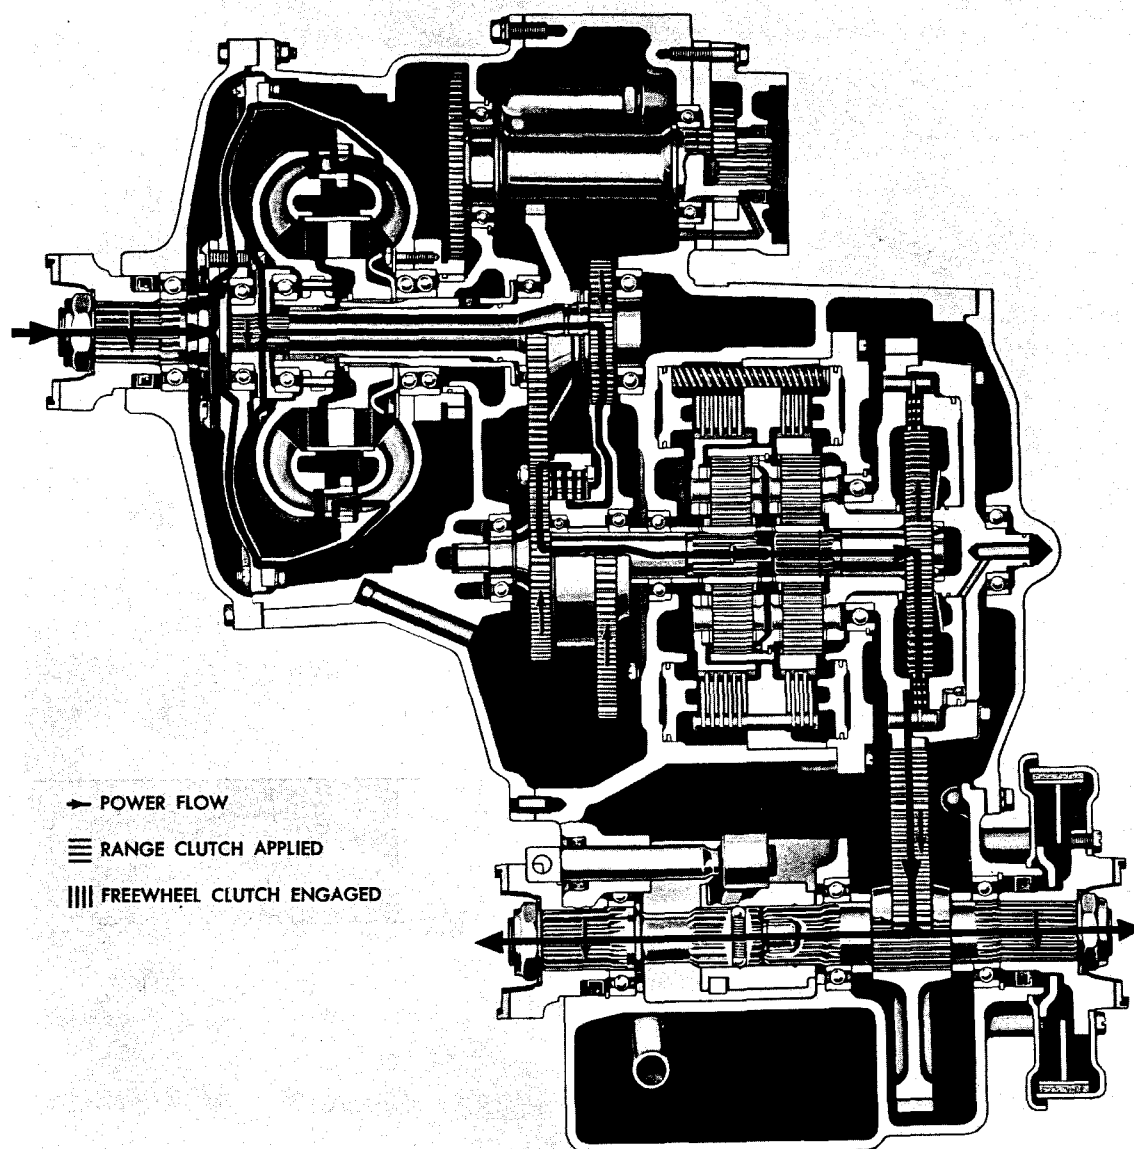

Fig. II-9. Forward-2, first turbine—torque path
e. Refer to para 23 and 24, below, and fig. II-9 and II-10 for corresponding transmission torque paths.
a. Fig. II-9 illustrates the torque path through the transmission in forward-2 range when load demand is high. The engine torque is transmitted to the range gears in the manner described in 21a, above.